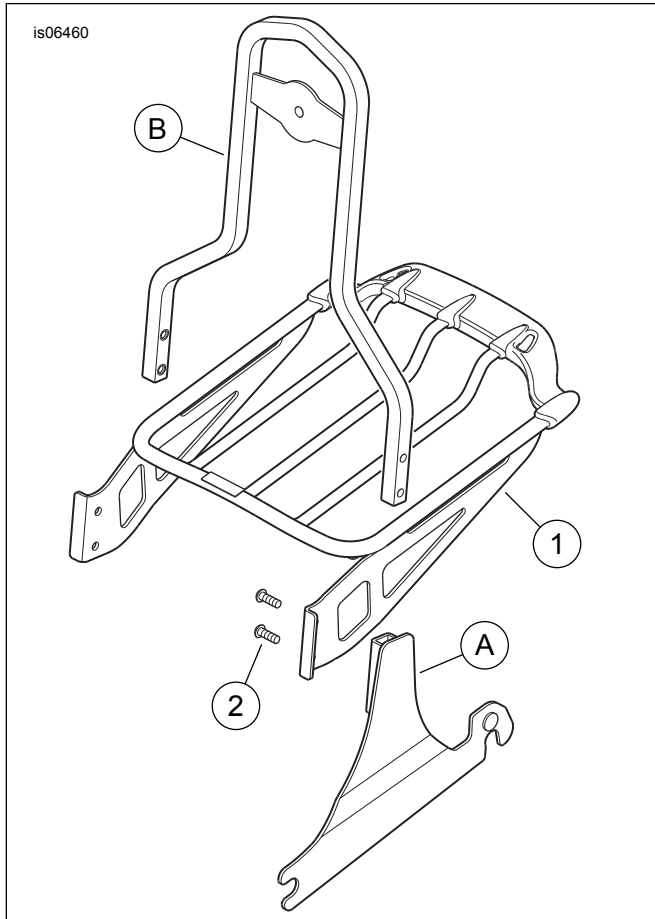

Figure 1. Service Parts, Detachable Air Wing Luggage Rack
See Figure 1 and Table 1.
1. See Figure 1. **Loosen** front two 3/8-16 TORX screws that attach rigid mount sideplates (A).
3. Raise sissy bar/sideplate assembly to gain access to screws (2) that attach sissy bar (B) to sideplates.